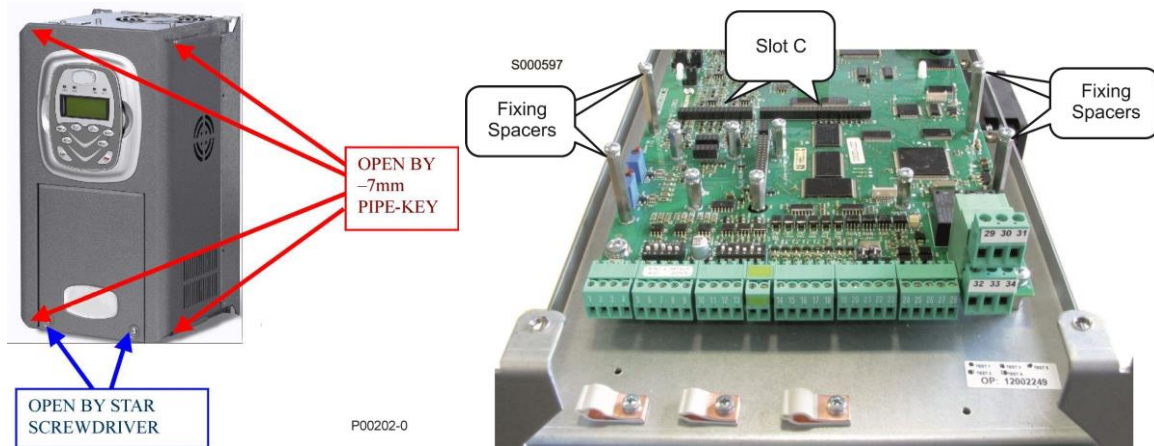

Figure 125: Removing the inverter cover; location of slot C
2. Remove the whole inverter covering by loosening the four hexagonal screws located on the top side and bottom side of the inverter to reach the fixing spacers and the signal connector (Figure 125 – Slot C.)